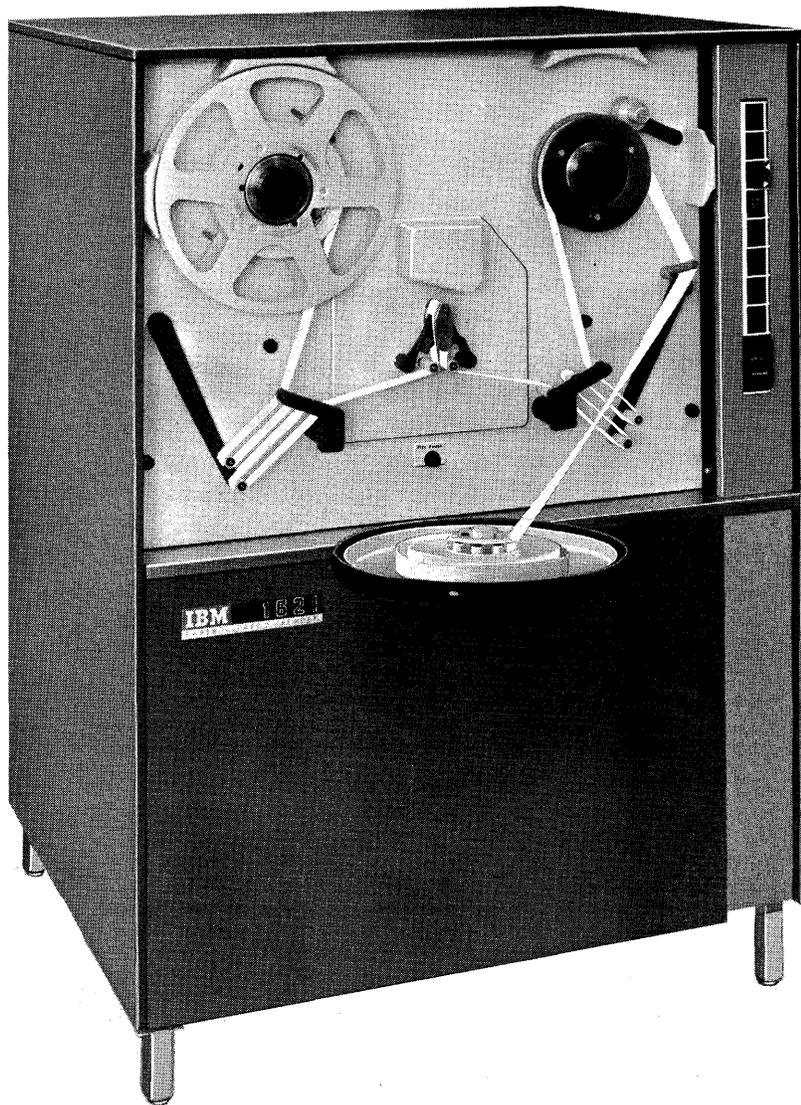

Figure 1. 1621 Paper Tape Unit
The paper tape reader, Figure 1, reads coded alphanumeric characters from 8-track paper tape at the rate of 150 characters per second. The characters are photoelectrically sensed, converted from 1621 paper tape code to 1620 Binary-Coded-Decimal (BCD), and placed in core storage. If a parity error is sensed, the Read Check indicator is turned on. The computer remains in automatic mode and continues to read until the end-of-record indication (a hole in the end-of-line (EL) channel) is reached. Whether the com-